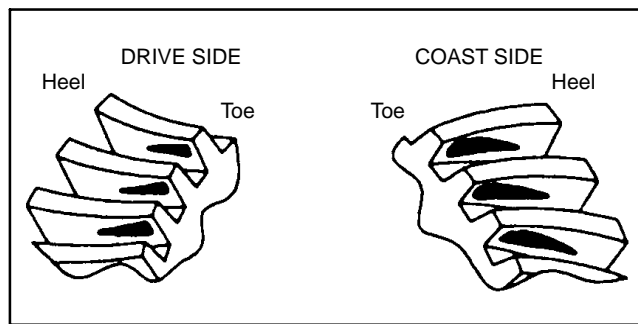

Figure 43
2. While applying a light load to the ring gear, rotate the pinion gear until the ring gear has made one complete revolution. The drive side pattern should be located at the toe portion of the tooth. The coast side pattern should also be at the toe portion of the tooth (Fig. 43).